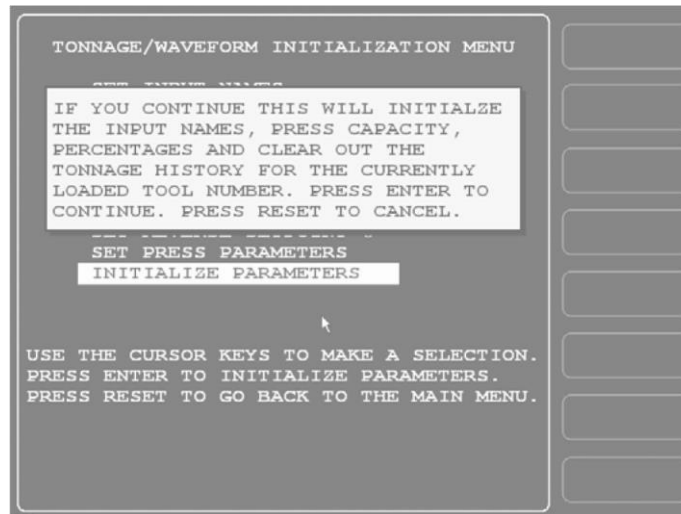

Figure 3-5. Initialize Parameters Warning Message
1. Select “INITIALIZE PARAMETERS,” the last item on the Tonnage/Waveform Initialization Menu. The warning message shown in Figure 3-5 will display.